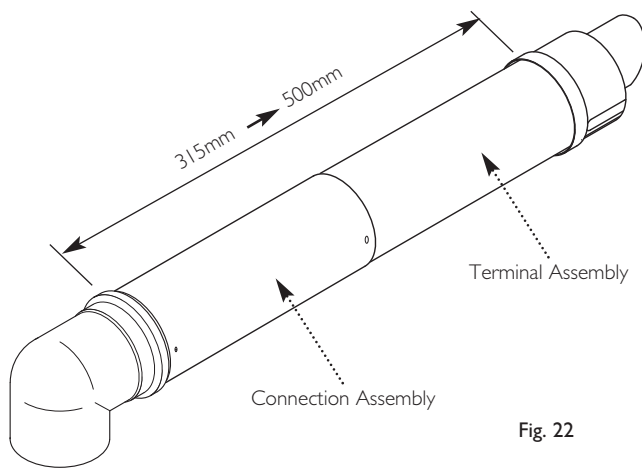

Fig. 22
2. The two sections can be adjusted to provide a length between 315mm and 500mm (Fig. 22) when measured from the flue elbow (there is 50mm engagement into the elbow).